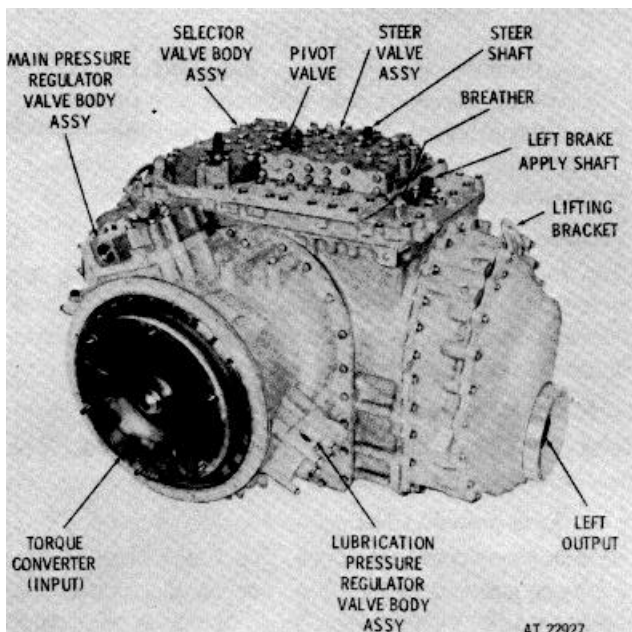

Figure 1-1. Model XTG 250-1A transmission-left-front view
(1) Overall views of the transmission may be found in figures 1-1 and 1-2
a. The Allison XTG 250-1A transmission is an X-drive model which delivers power to left and right sprocket drive shafts of a tracked vehicle The transmission, with principal exterior parts identified, is shown in figures 1-1 and 1-2.